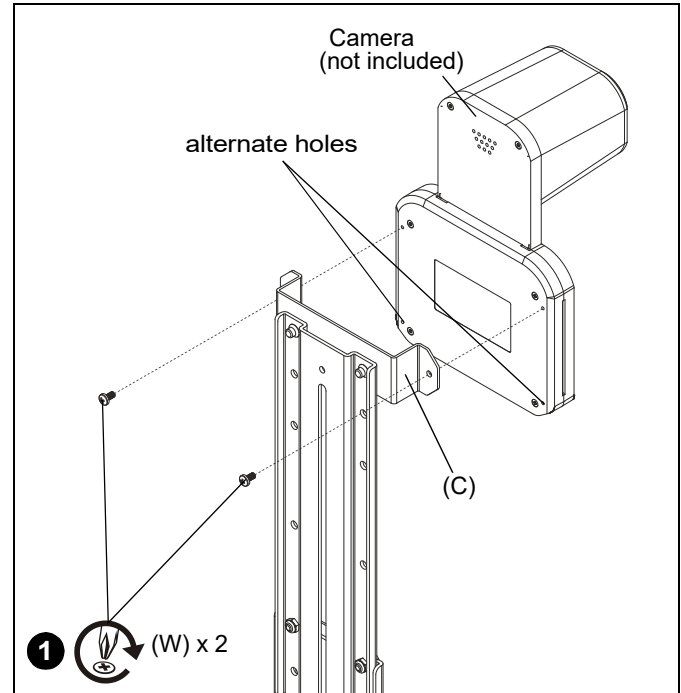

Figure 24
1. Use two M4 x 8mm Phillips pan machine screws (W) to secure camera to bracket (C). (See Figure 24)